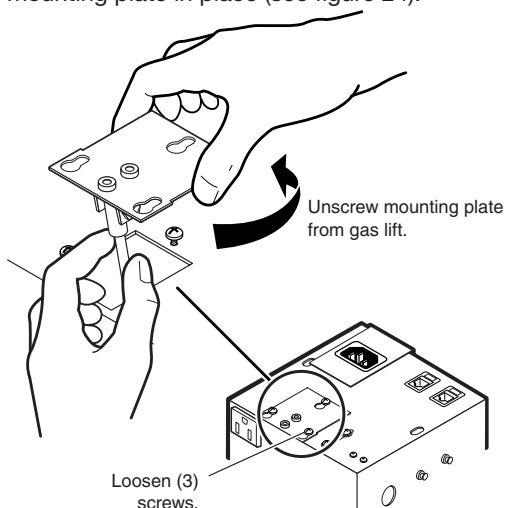

Figure 24. Removing the Gas Lift Mounting Plate
2. Loosen the three Phillips head screws that secure the gas lift mounting plate in place (see figure 24).
NOTE: Figure 24 shows an HSA 200 model. Removing the gas lift mounting plate from an HSA 222 is an identical procedure.